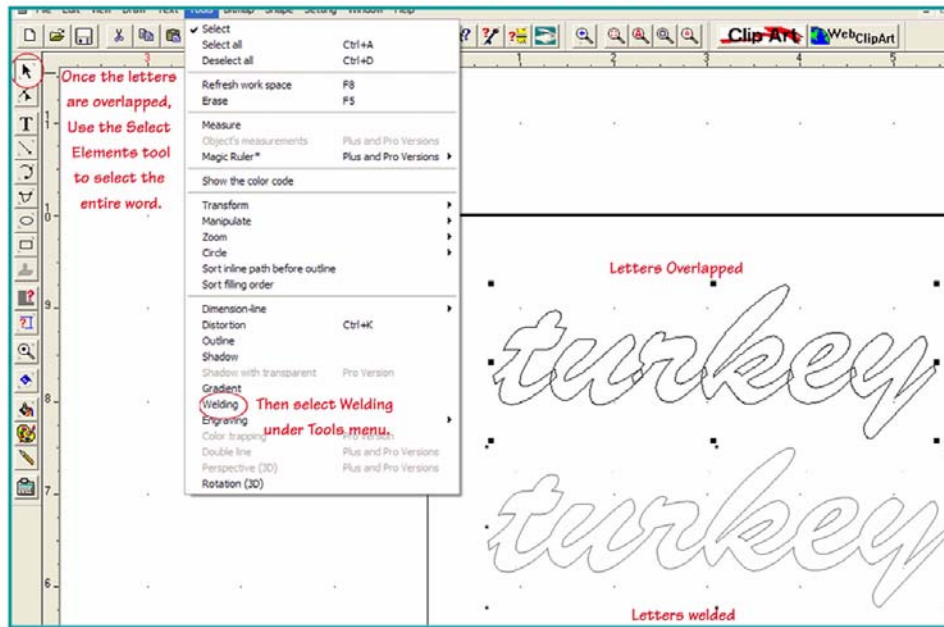

Figure 150
- 3 Move letters to overlap, using the arrow tool or the little boxes. See figure 150 on page 101.
- 5 On the **Tools** menu, click **Welding**. When you do, the letters should join. If the letters do not join, click **Undo**, move them slightly, and try again. See figure 150 on page 101.